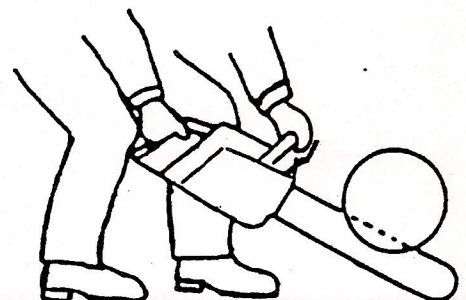

Figure 5
Cut from the underside upward using full throttle (see fig 5)
- 32 When the butt is to be pulled down a steep slope, offset the winch via a pulley to give a good view and a safe working position for the operation (Fig 5).